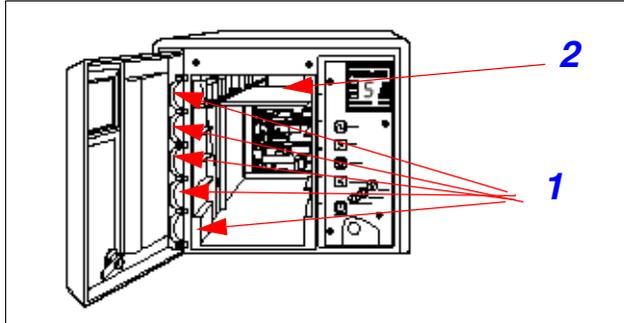

Figure 12-2 IBM 3581 cartridge slots
The IBM 3581 does not have a cartridge I/O station. To insert and remove cartridges from the slots you have to open the autoloader door. The IBM TotalStorage 3581 Tape Autoloader can contain up to seven tape cartridges, as labeled in Figure 12-2:
**Note:** Installing FC7004 reduces the autoloader capacity to six data cartridges. The barcode reader connects to the interface connector on the inside top panel of the IBM 3581. This location prevents you from using cartridge storage slot 1 (see Figure 12-2 on page 320). When you install the barcode reader, you reduce the capacity of the autoloader to six cartridge storage slots. The front storage slots are still numbered 1 through 5, but the autoloader's menu functions and the server's application software cannot select or use slot 1.
This is illustrated when, with the barcode reader installed, the operator LOAD SLOT function uses storage slots 2 and 3 as the cartridge source locations to load slots 6 and 7; without the barcode reader installed, the LOAD SLOT function uses storage slots 1 and 2 as the source locations. See Figure 12-2 on page 320 for slot locations.